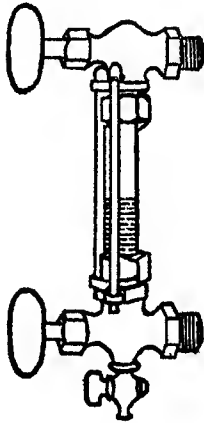

FIG. 7.—GLASS WATER GAUGE.
**Glass Water Gauge.**—This is an instrument to tell at a glance the quantity of water in a boiler. It consists of a glass tube about a foot long with its lowest end two inches above the highest part of the crown sheet and in connection with the water space of the boiler. Its upper end is connected with the steam space (Fig. 7). The gauge glass may be connected directly to the shell or to a special fixture called the water column whose two ends are connected to the steam and water space as above specified. The tube is fitted at each end to a valve by means of packing nuts and packing. Below the bottom valve is attached a drain cock. The presence of water in the gauge, provided the boiler is level, denotes that all fire surfaces are covered with water, but too much dependence must not be laid on it, as it often happens that sediment and scale choke the connections to the tube, causing it to give a wrong reading. For this reason it is essential that the gauge be blown out at least once a day if not oftener. To do this, close the bottom valve and open the drain cock. This allows steam from the upper valve to blow out the sediment. Now close the upper valve and open the lower, allowing the water to wash out the sediment in the lower connection. After this close the drain cock and slowly open both valves wide, at the same time noticing whether there is any change in the level of the water. For method to be followed when replacing a broken gauge glass see page 88.